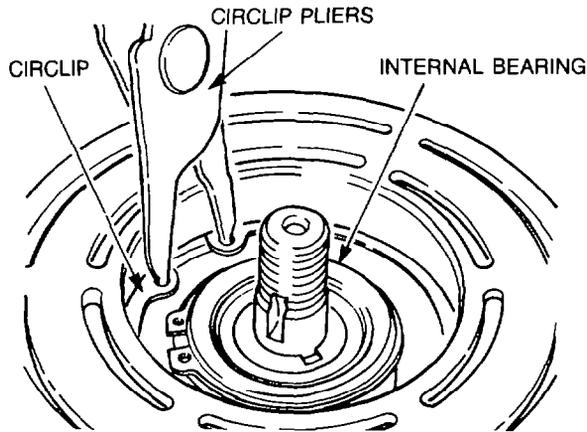

Figure 19 — Rotor Pulley Internal Circlip — Removal
- c. Lightly tap the Woodruff key from the shaft, then using suitable circlip pliers, remove the internal bearing circlip from the housing (see Fig. 19).